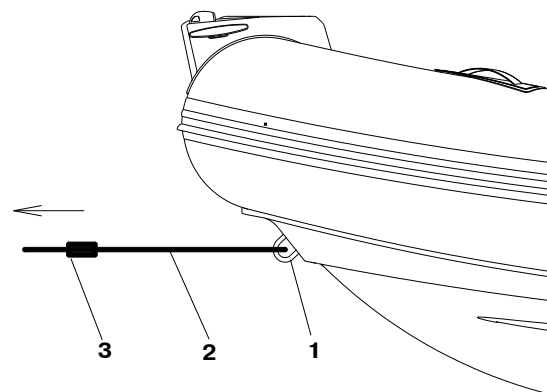

Fig.10
There is U-bolt in the bow ((1) Fig.10) of your boat for towing.